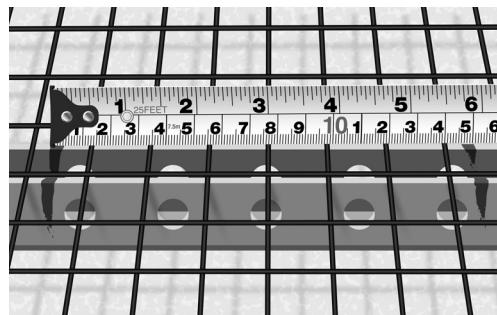

Fig. 15. Mark CC distance on the chicken wire
- Mark the calculated CC distance on the chicken wire (Fig. 15). The heating cable must be laid in parallel with the joist construction.